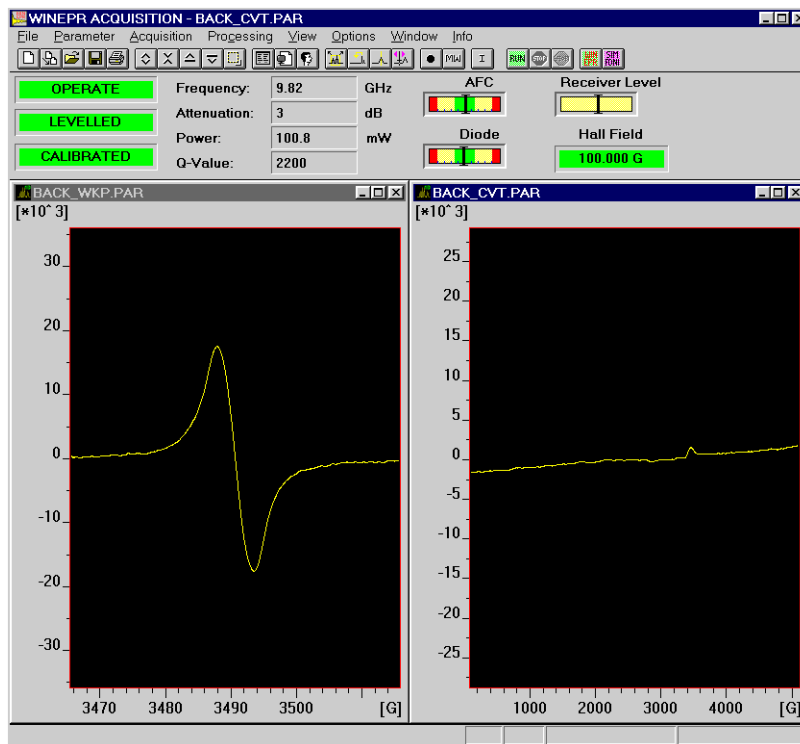

Figure 9-15 Acquire the cavity background signal.
13. **Acquire a cavity background spectrum.** Click the RUN button in the tool bar to acquire the cavity background signal. (See Figure 9-15.)